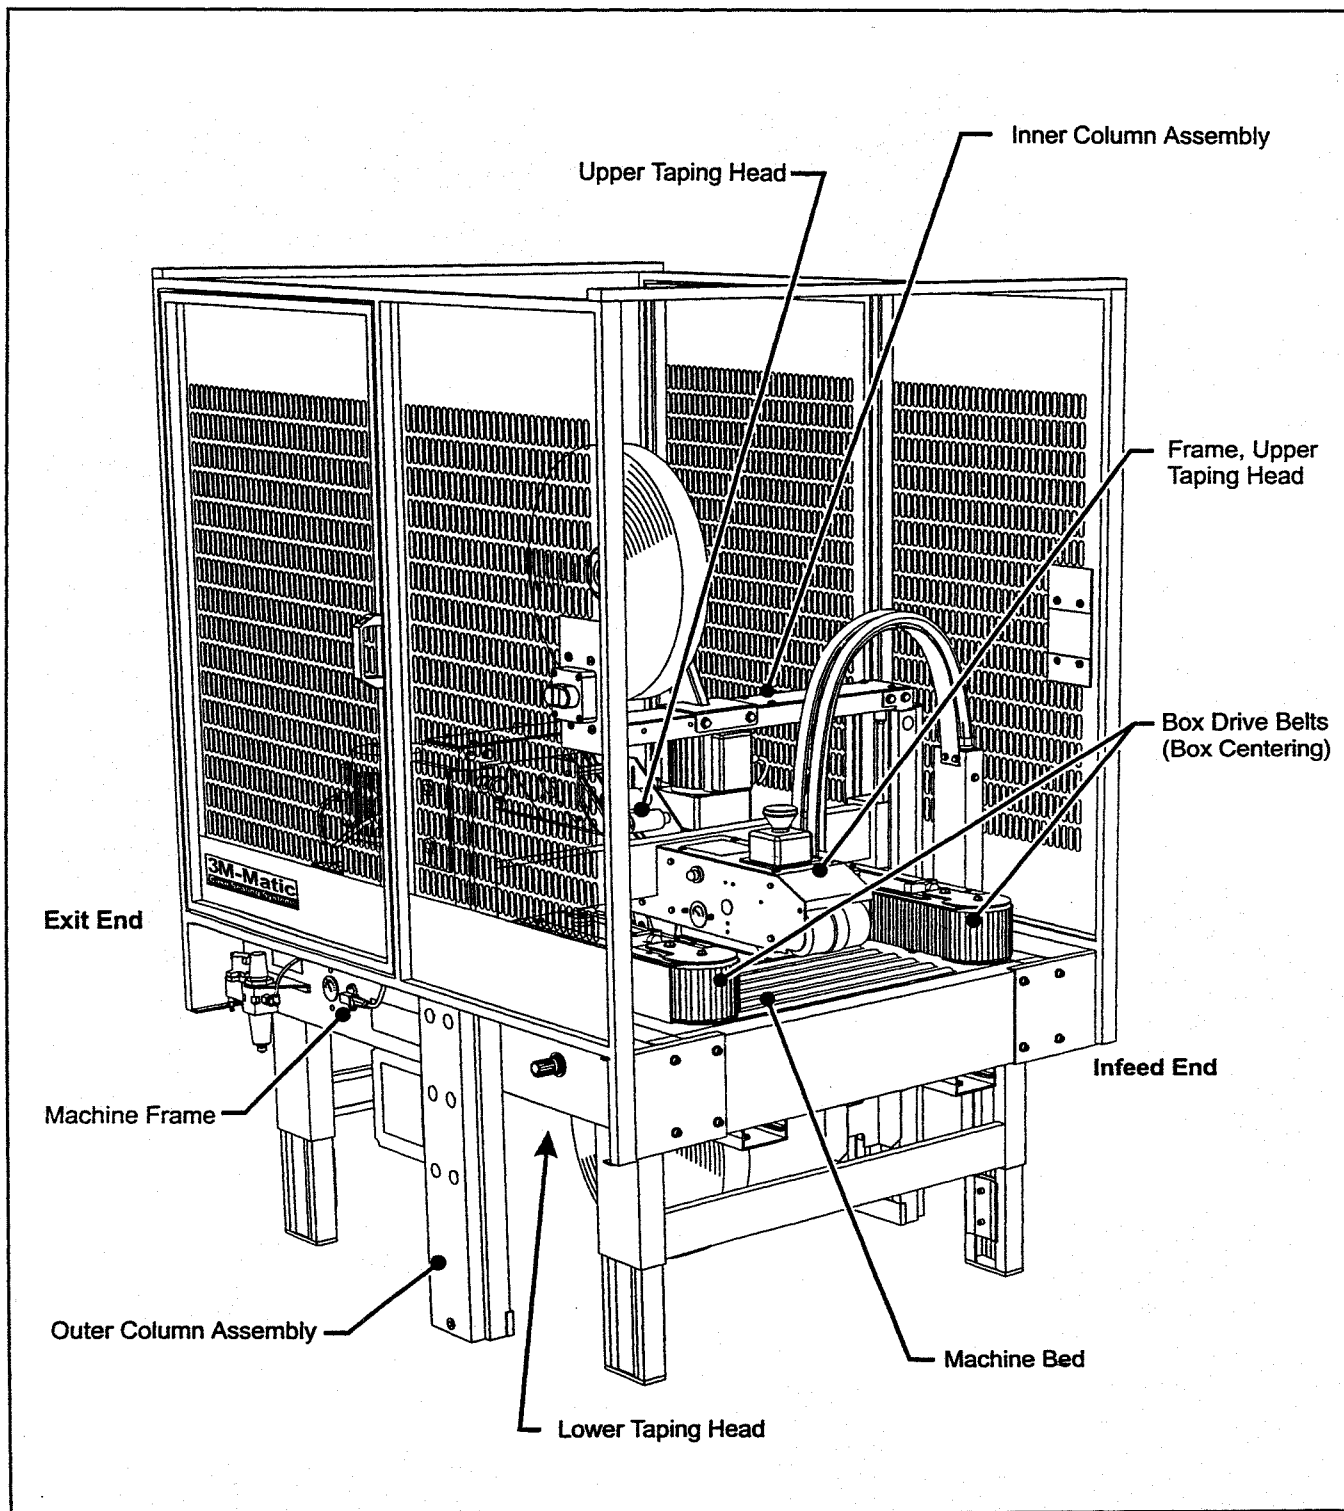

Figure 3-1 – Case Sealer Components
The following instructions are presented in **the order recommended** for setting up and installing the case sealer. Following them step by step will result in an installation in your production line that best utilizes the many features built into the case sealer. Refer to Figure 3-1 to identify the various components of the case sealer.
The electrical control box, shown in Figure 3-1, contains the "On/Off" switch with pre-set circuit breaker and can be located on either side of the machine frame for customer operating convenience. A standard three conductor power cord with plug is provided at the back of the electrical control box for 115 Volt, 60 Hz, 6.4 Amp electrical service. The receptacle providing this service shall be properly grounded. Before the power cord is plugged into 115 Volt, 60 Hz outlet make sure the red "Off" button is depressed and that all packaging materials and tools are removed from the machine. **Do not plug electrical cord into outlet until ready to run machine.**
Refer to Figure 3-1 and 3-2 to acquaint yourself with the various components and controls of the case sealer. Also see Figures 3-1 and 3-2 in Section II for taping head components.
8. Both the upper and lower taping heads utilize extremely sharp knife blades. The blades are located under the orange blade guard which has the "WARNING – SHARP KNIFE" label. Before loading tape, refer to Figures 3-1 and 3-2 in Section II to identify the blade location. Keep hands out of these areas except as necessary to service the taping heads.